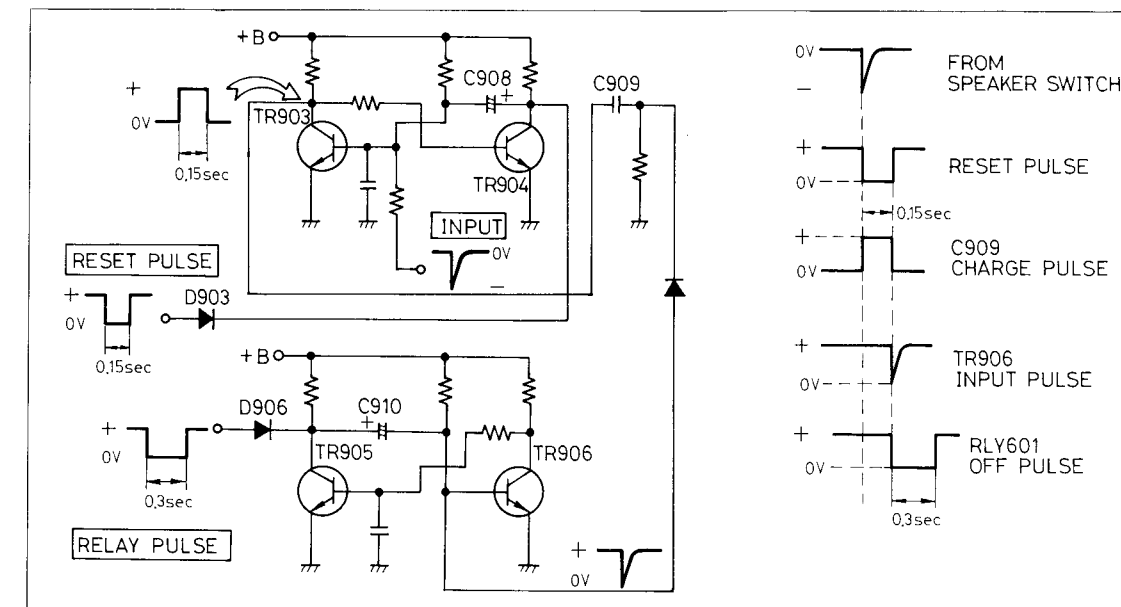

Fig. 6
In this instance, as explained in item 4, a negative pulse is generated from the trigger-pulse-generation circuitry. This pulse is applied to the mono-stable multivibrator shown in figure 6. TR903 of this circuitry is usually maintained in the "on" condition, and TR904 in the "off" condition. TR903 becomes off only at the instant when a negative pulse is applied to its base, and positive voltage appears at the collector. C909 is charged by this voltage, and, at the same time, TR904 becomes on. When TR904 becomes on, the collector becomes ground potential, and, in the same way as explained in item 5, this circuitry also returns to the "off" condition after about 0.15 second. In this way, the TR904 collector and the impedance detection circuitry are connected by way of D903. During the time that the TR904 collector is ground potential, D903 becomes forward biased, and, therefore, the comparator function is simultaneously reset when TR902 of the tap-selection relay-drive circuitry becomes off. In addition, the collector potential of TR903 also returns to ground potential after about 0.3 second. At this time, the charge until now applied to C909 is discharged, and the negative pulse here generated is applied to the base of TR906. Then TR906 becomes off, and, as explained in item 5, the collector of TR905 becomes ground potential, and the negative pulse turns off the TR407 muting-relay-drive transistor for about 0.3 second. During this interval, the operation of the speaker DC resistance-detection circuitry is as already explained in items 1, 2 and 3. Note that, as shown in figure 6, time delays occur in each of the pulses.